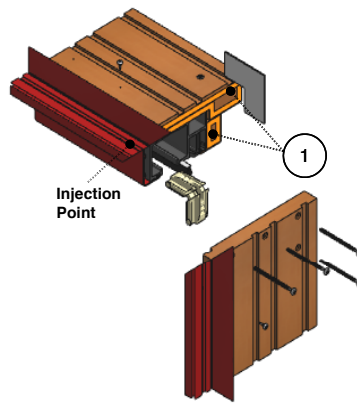

Figure 1
- a. Apply continuous 5mm bead of wood/metal joint sealant on the head. (Figure 1)